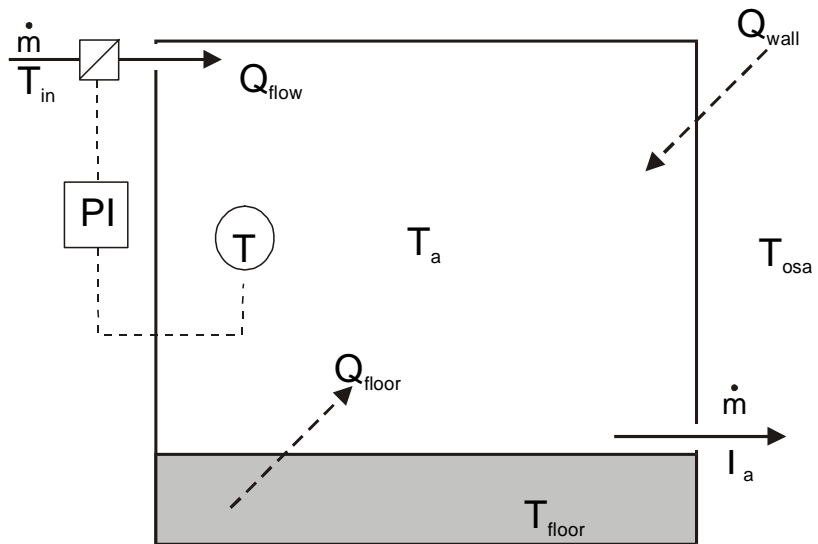

Figure 60: Schematic of the physical model of the room for the *room\_pi* example
For the next example we will create a more complicated project that uses feedback to control the temperature in a room using a proportional integrating (PI) controller. Figure 60 shows a schematic of the physical model of the room.